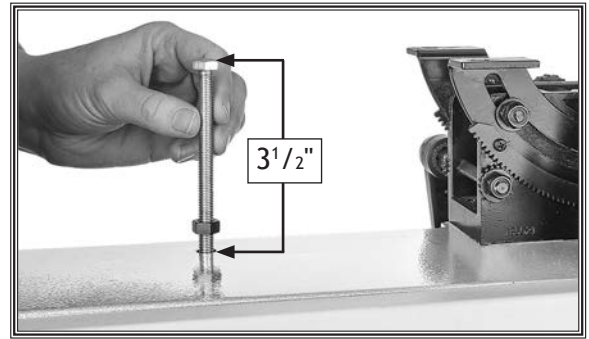

Figure 19. Installing hex bolt to set positive stop.
1. Thread (1) M8-1.25 hex nut partially onto M8-1.25 x 110 hex bolt, as shown in **Figure 19**, then thread bolt into panel above lower wheel until top of bolt is approximately 3 1/2" above panel. Finger-tighten hex nut for now. (Refer to **Adjusting Positive Stop** on **Page 40**.)